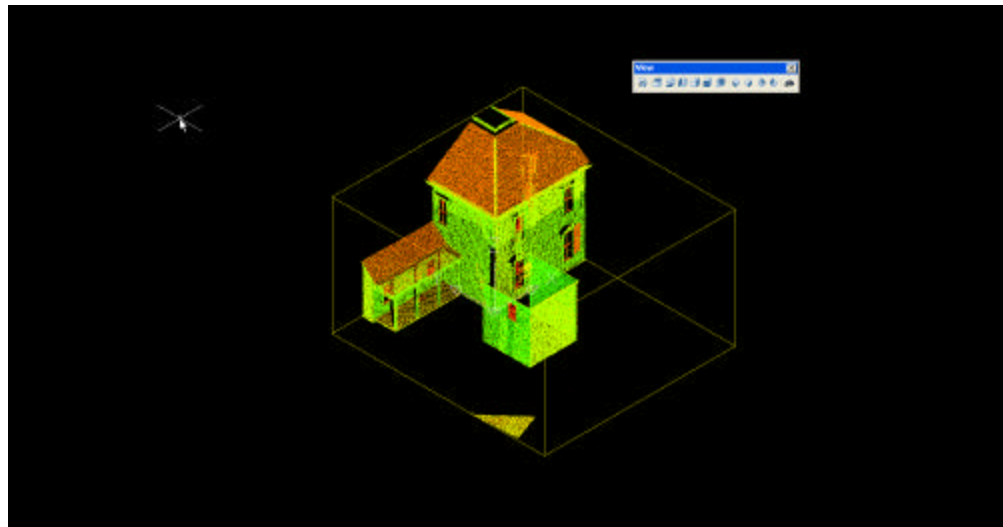

Figure 6.3.7
6. Points outside the boundaries of the box are hidden from view. See figure 6.3.7 below.